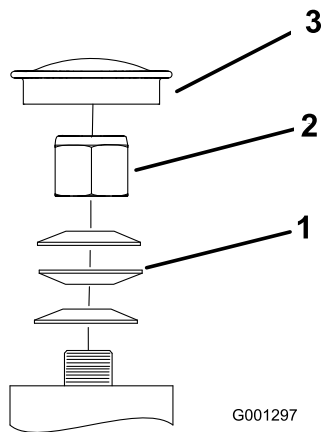

Figure 53
3. Remove the dust cap from caster and tighten lock nut (Figure 53).
4. Tighten the locknut until the spring washers are flat and then back off a 1/4 turn to properly set the pre-load on the bearings (Figure 53).
Important: Make sure spring washers are installed correctly as shown in Figure 53.
5. Install the dust cap (Figure 53).